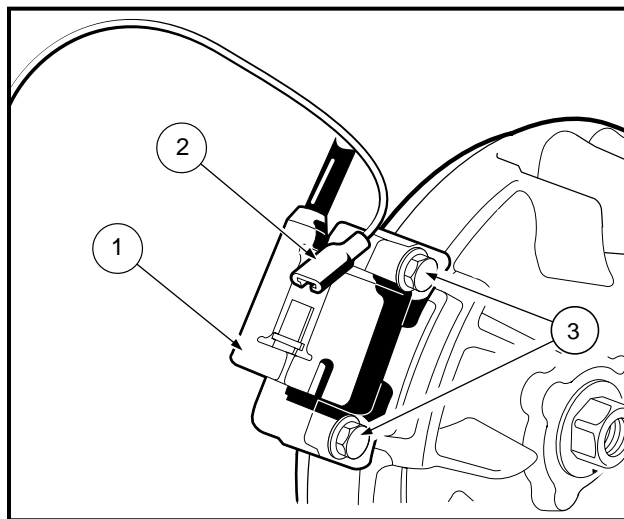

Figure 13-62 Ignition Coil
2. Disconnect the ignition coil (1) from its primary lead wire at the connector (2). Remove the two bolts (3) and take out the ignition coil (**Figure 13-62, Page 13-31**).